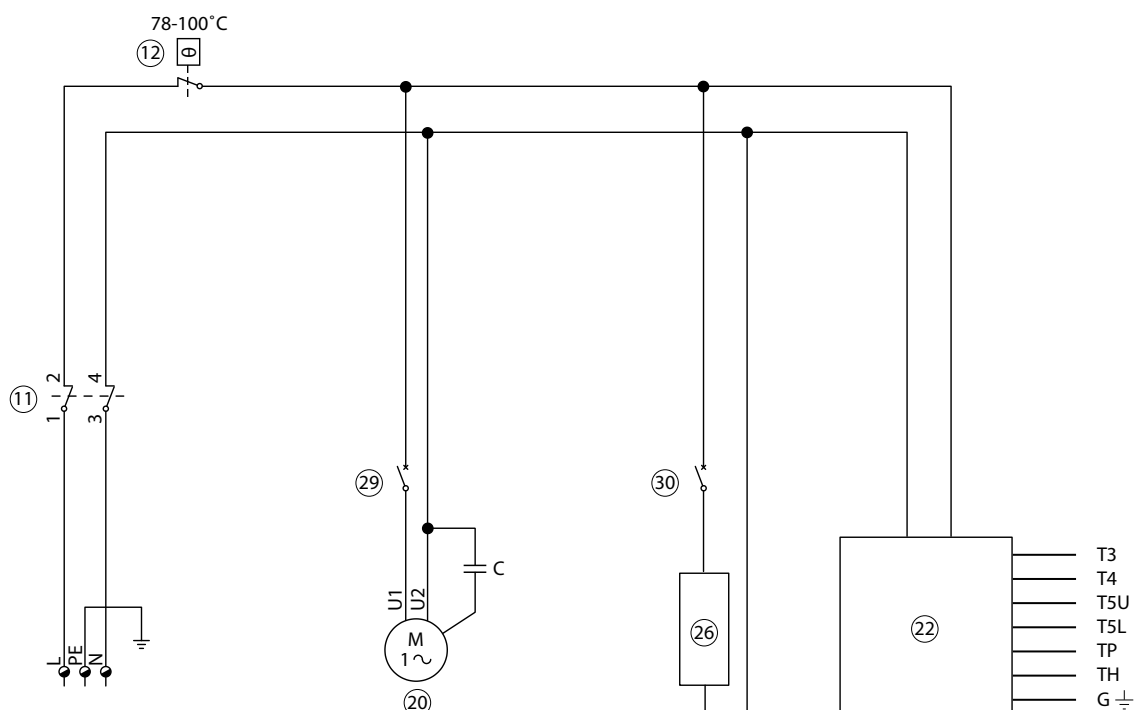

Figure 12. Wiring diagram
2. Connect the power cable to the terminal blocks according to the wiring diagram. See Figure 12. Wiring diagram Page 18.